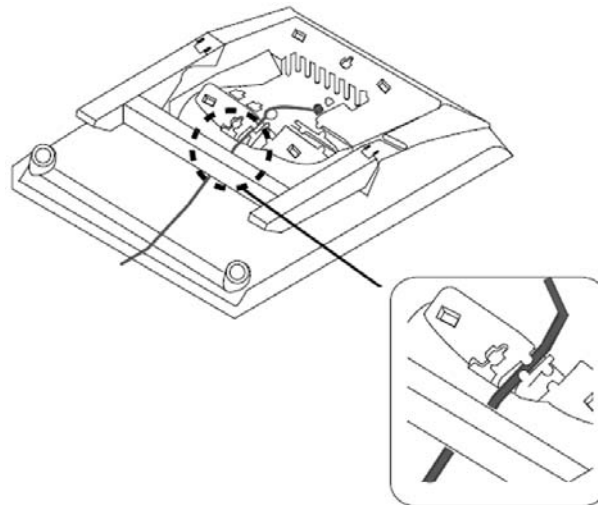

Figure 5-81 Relocating the Handset Cable.
1. From the back of the terminal, move the handset cable to the cable groove shown (refer to Figure 5-81 Relocating the Handset Cable.).